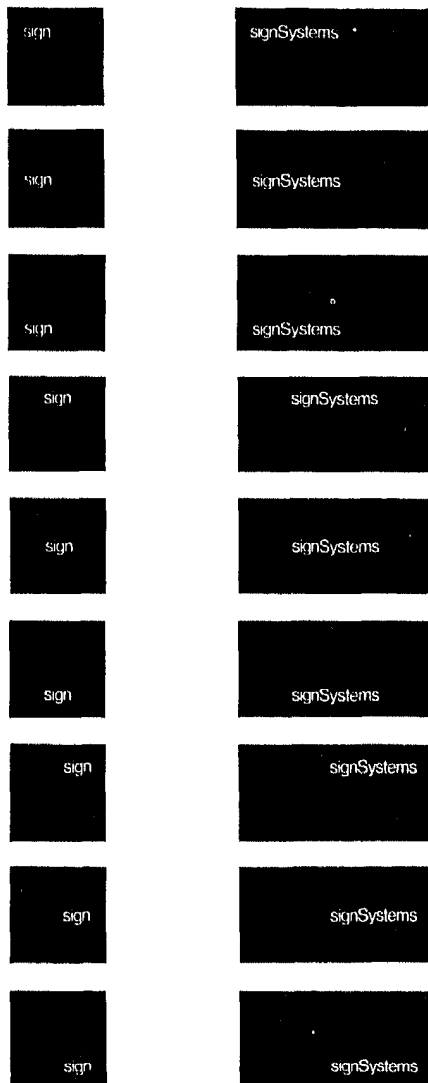

Fig. 12
**Copy placement format** The placement of copy on a sign face may take one of the nine basic positions or a custom format for special situations (Fig. 12).